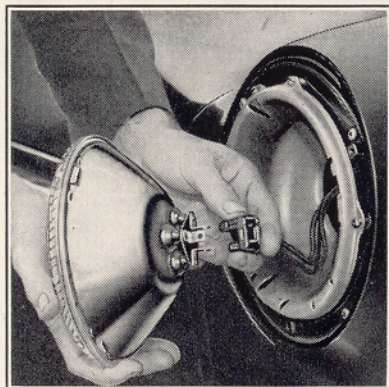

Figure 46
3. Remove the "Sealed Beam" unit by removing headlamp plug as shown in Figure 46.